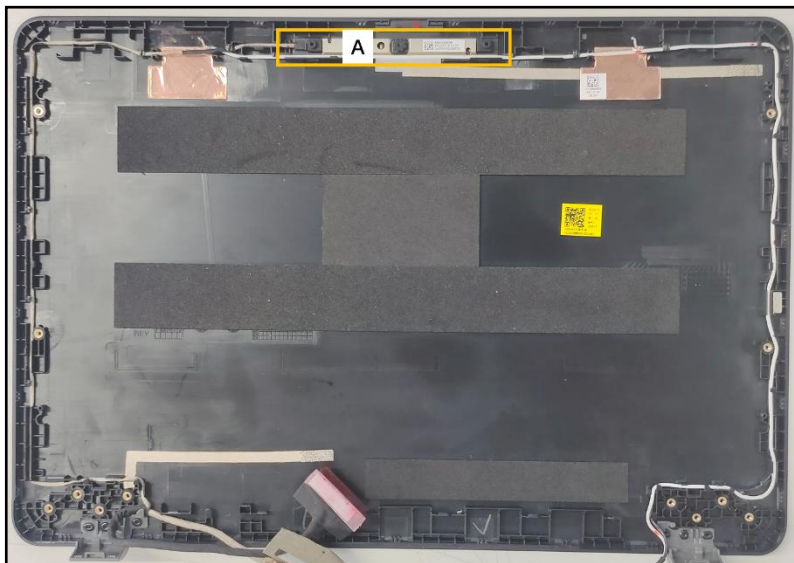

Figure 3-55. Camera Module Removal
1. Find the camera module (A) on the LCD bezel (Figure 3-55).